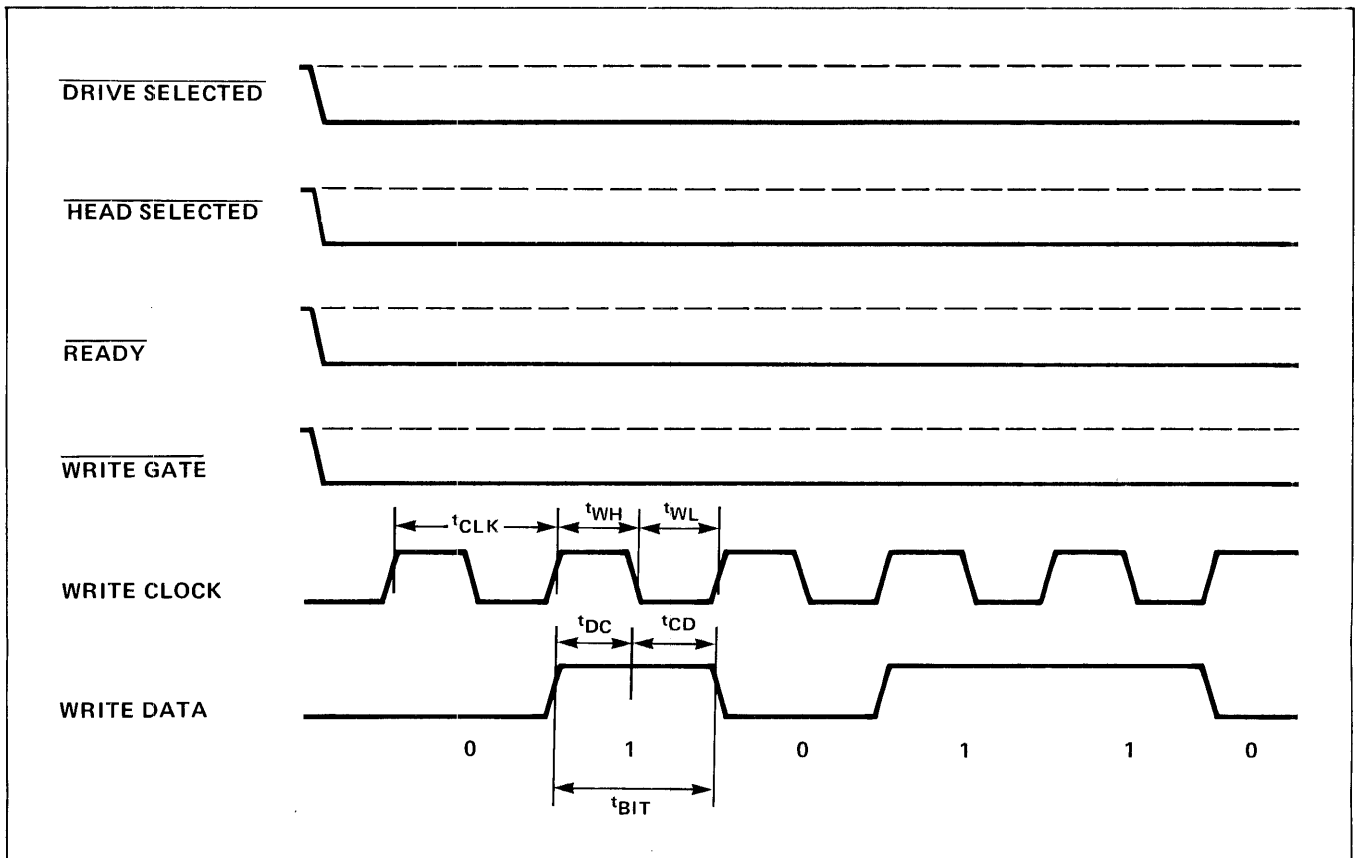

Figure 4-19. WRITE DATA and WRITE CLOCK Timing
5. *WRITE DATA and WRITE CLOCK timing* WRITE DATA and WRITE CLOCK timing is shown in Figure 4-19. The AC characteristics are listed in Table 4-24.